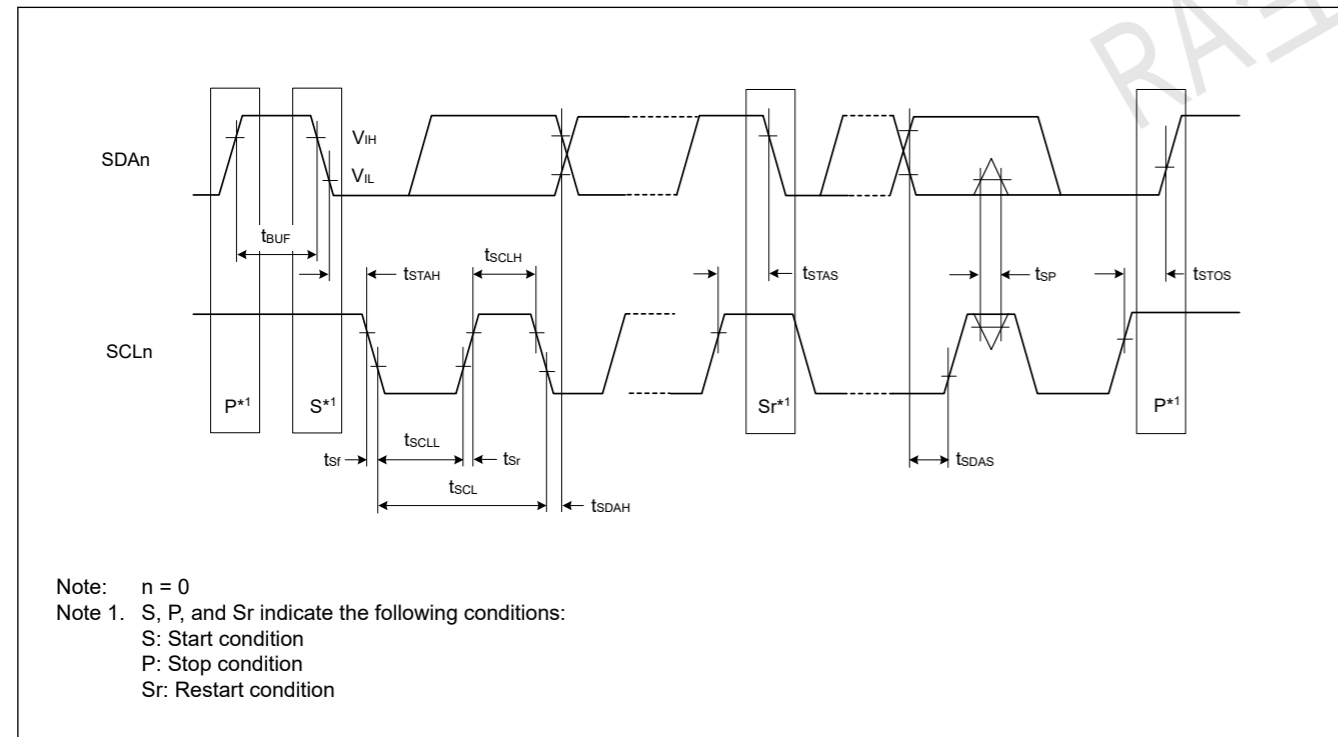

Figure 2.35 I²C bus interface input/output timing
| IIC (Fast mode) | SCL输入周期时间 | t _{SCL} | 6 (12) × t _{IICcyc} + 600 | — | ns Figure 2.35 |